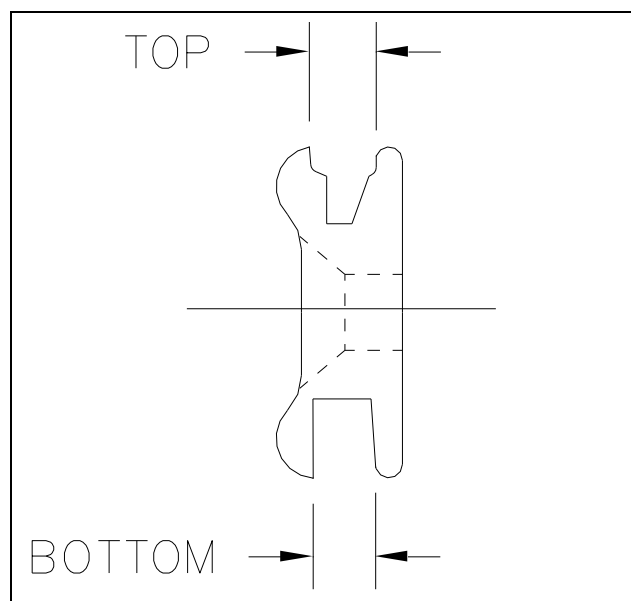

Figure 3: Worn slider indicating where to measure.
3. Figure 3 below shows how a worn part normally looks and where to measure the groove width. The TOP and BOTTOM profile differs on a worn part and as such both the top and bottom slide grooves are to be measured with a calliper.